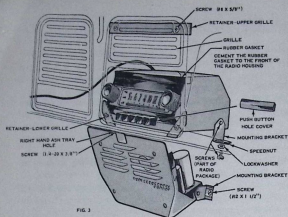

FIGURE 3
14. Fasten the two remaining angle brackets to the lower sides of the speaker baffle. See figure 3.
16. Using the lower brackets as a guide drill two .177 dia. holes (#16 drill) and fasten the brackets with the two 1½" No. 12 screws. See figure 3.